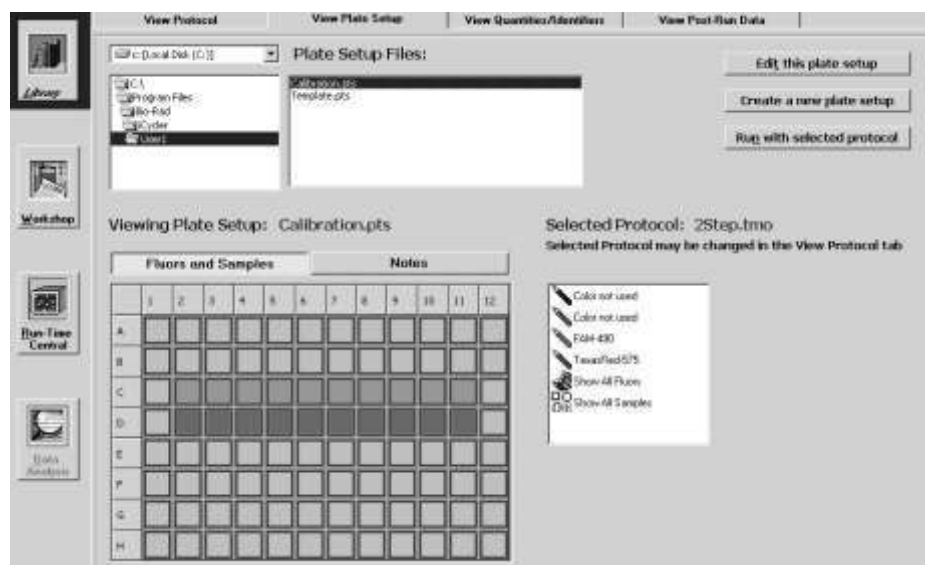

Fig. 4.2. Library / View Plate Setup Window, Fluors and Samples, Show All Fluors View.
- **View Plate Setup:** Allows navigation of stored plate setup files. Provides information about the location of sample wells, the sample type and the fluorophores that will be analyzed in each (see Figures 4.2 and 4.3).
In this window, you can navigate the directory of plate setup files. When a plate setup file name is highlighted in the directory tree, the details of the plate setup, including the monitored wells, the sample types loaded in each well and the fluorophores loaded in each well, are displayed in the View Plate Setup window ( Figure 4.2).